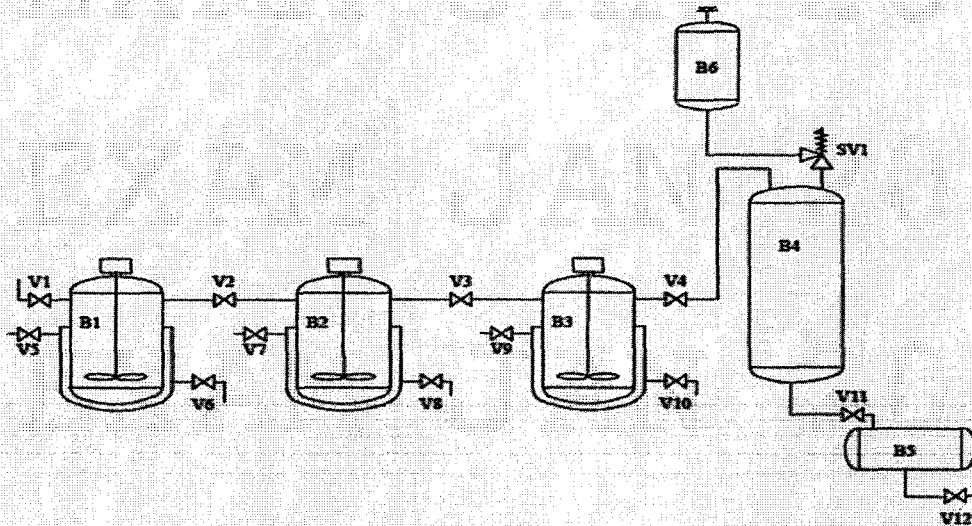

FIGURE Q1
- i. There are **TEN (10)** pages in this Question Booklet including the cover page and appendix.
1. **FIGURE Q1** shows a pressurized system in a petrochemical plant. Nitrogen liquid is fed from the storage facility into the jacketed process vessel B1 through valve V1. It then goes through the jacketed process vessels, B2 and B3 where various additives are incorporated. The product is cleaned within the catalyst column B4 and stored in vessel B5 and it is ready for despatch via valve V12.